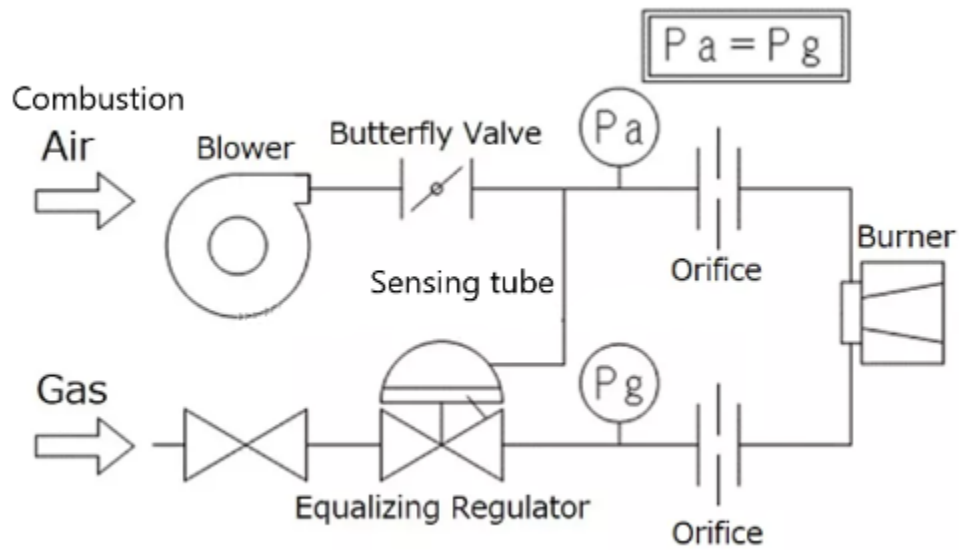

Figure 40. Nozzle mixer schematic
For nozzle mix burners a ratio (equalizing) regulator supplies gas to a burner at a pressure that is in direct (1:1) proportion to the air pressure supplied to the burner (Figure 40). As the air pressure to the burner increases, then the ratio regulator causes the gas pressure at the gas limiting orifice to increase. Conversely, if the air pressure decreases, then the gas pressure decreases. A ratio regulator is a zero governor regulator with a sensing tube connected to the regulator bleed vent. This line loads the air pressure into the diaphragm chamber, causing the loading element force to increase. The result is a gas pressure setpoint that will match the combustion air pressure. When there is no air pressure this zero governor type regulator will return to the closed position.
- Figure 40.”Nozzle mixer schematic” from ITO Corporation is used for educational purposes under the basis of fair dealing.